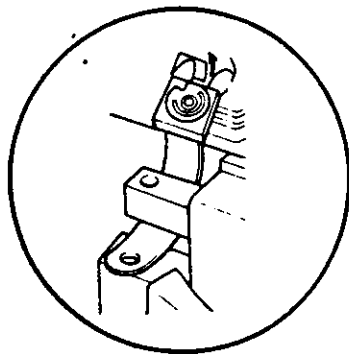

Fig. 31A.
- 10) Fix **D** portion under the **C** portion as shown in Fig. 31A.